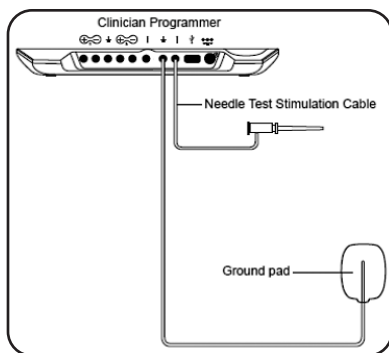

Figure 2. Clinician Programmer cable connections for the lead implant procedure.
- e. Insert the black plug into the CP ground (⚡) next to Needle Test Stimulation Cable (**Figure 2**).
7. Insert the black plug of the needle test stimulation cable into the CP outside the sterile field (**Figure 2**). Keep the clip end of the cable in the sterile field.